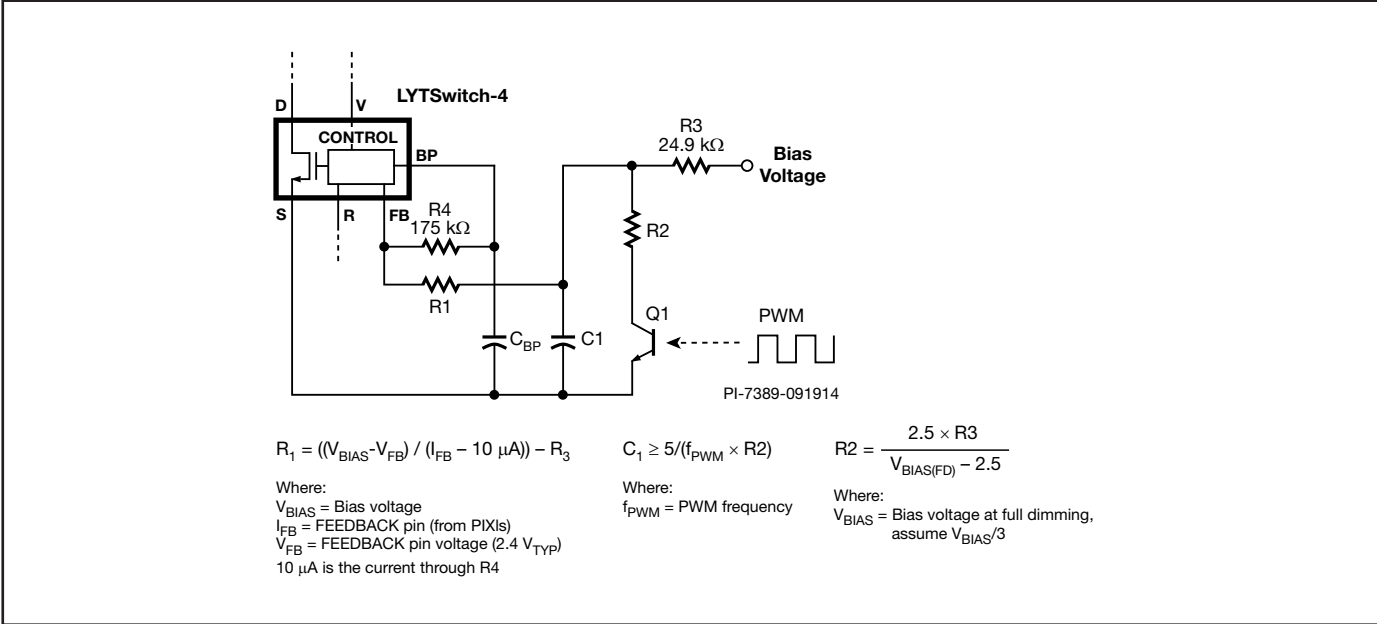

Figure 29. Circuit Configuration for PWM Dimming.
Figure 29 shows a circuit configuration for implementing PWM dimming which converts the digital signal into an analog current which adjusts the FEEDBACK (FB) pin current and therefore the output current. The dimming range achievable is 16:1.